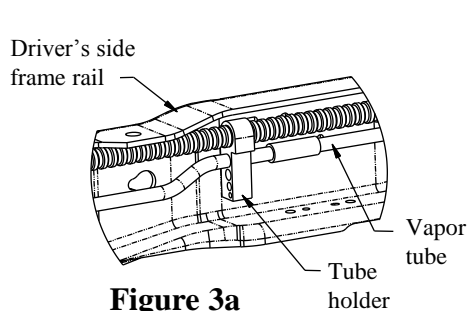
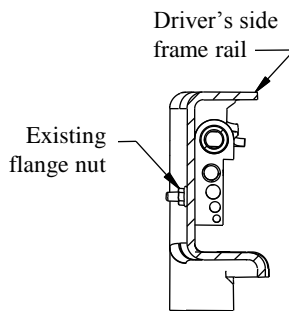
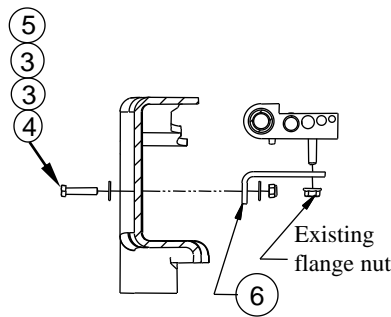

Figure 3a
Figure 3b
Figure 3c
| 3 | WASHER FLAT 1/4" (Figure 3c) | 2 |
| 4 | NUT, NYLOK 1/4"-20 (Figure 3c) | 1 |
| 5 | BOLT, HEX HEAD 1/4"-20 x 1 1/4" Grade 2 (Figure 3c) | 1 |
| 6 | L-BRACKET (Figure 3c) | 1 |
2. **On 2005 to 2010 Gas Engine Vehicles Only.** The vapor tube running along the inside of the driver's side frame rail must be relocated prior to installing the driver's side bracket. See Figure 3a. Remove the flange nut from the outside of the frame and keep for later use. See Figure 3b. Rotate the tubes up and out of the way. Install the L-bracket (6) with 1/4" hardware (3)(4)(5), as shown in Figure 3c. Tighten the L-bracket (6) to the frame, but leave the tube holder loose to aid bracket installation.
14. **On 2005 to 2010 Gas Engine Vehicles Only.** Use the factory flange nut that was removed in Step 2 to tighten the tube holder onto the L-bracket (7) as shown in Figure 3c.